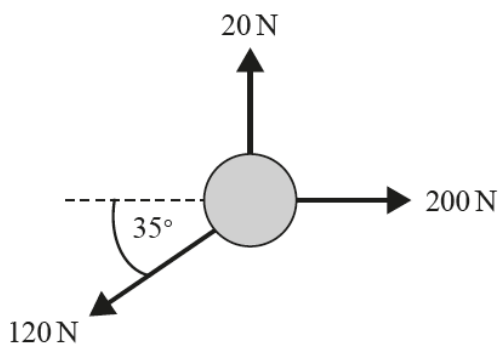

Fig. 4
3 (a) A particle is subjected to three co-planar, concurrent forces, as shown in Fig. 4.
- (ii) The particle has a mass of 3 kg, and is acted upon by the forces shown in Fig. 4 for a period of 8 seconds. The initial speed of the particle is  $4 \text{ m s}^{-1}$  in the same direction as the resultant force. Calculate the distance travelled by the particle during the 8 seconds period.